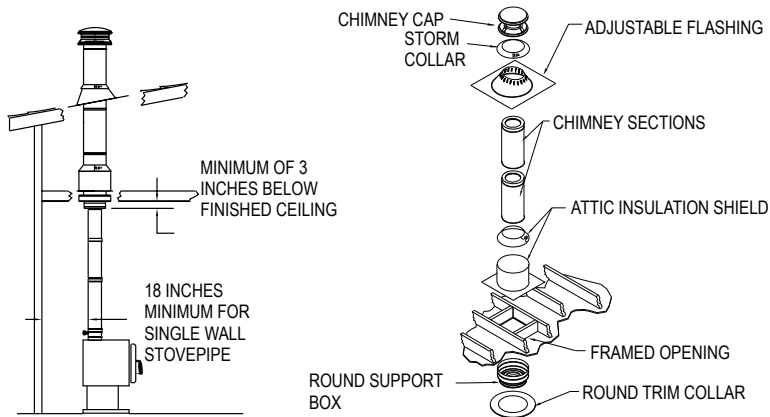

Figure 3
- 2. Frame Support Opening:** Drop a plumb bob to the center of the appliance's flue outlet and mark this center point on the ceiling. Refer to Table 2 for specific framing and clearance dimensions. Mark appropriate cutting lines around the center point. Cut a square hole in the ceiling for the Support Box. Frame a level, square opening centered over the hole which you have cut. (*Figures 3 and 4*).